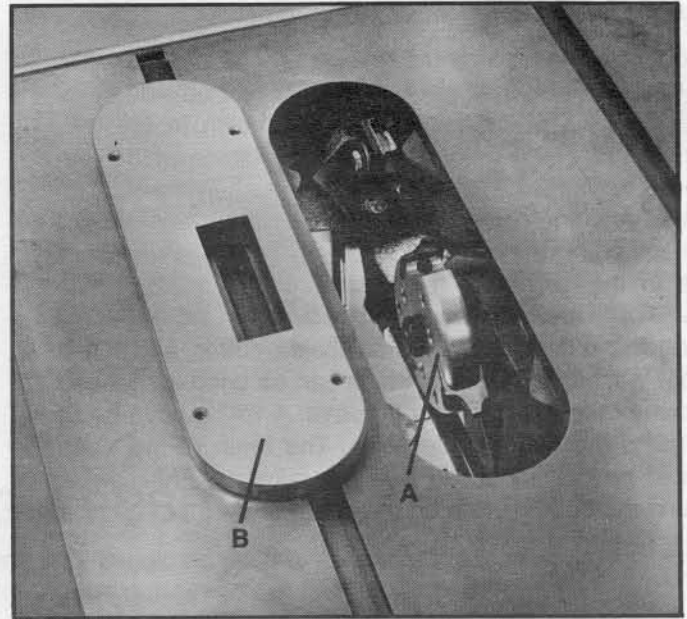

Fig. 64
The moulding cutterhead (A) Fig. 64, is assembled to the saw arbor as shown. Also, the accessory moulding cutterhead table insert (B), must be used in place of the standard table insert.